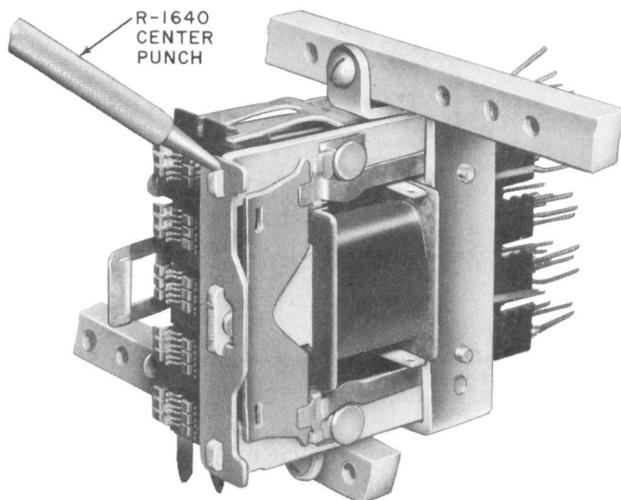

Fig. 10—Staking Core Legs to Secure Core Plate
(4) Remove the bridge studs. Remove the bridge brace, turning it 90 degrees if the position adjacent to the relay is equipped. Remount the top mounting screw. Remove the adapter. Remount the bottom mounting screw. Securely tighten the mounting screws.
(5) Using the R-1640 center punch and the 4-ounce riveting hammer, stake the upper surface of the top and bottom core legs to secure the core plate as shown in Fig. 10.
- (5) Relieve the pressure of the core plate replacer spindle on the bridge bar by backing off the spindle slightly. Loosen the thumb nuts on the bridge and remove the bar. Loosen the thumb nuts on the core plate replacer and remove the replacer.
- (6) Loosen the thumb nuts on the brace. Remove the bottom bridge stud and remount the bottom mounting screw but do not tighten it. While supporting the brace, remove the upper bridge stud and remount and partially tighten the upper mounting screw. Remove the bridge brace, turning it 90 degrees if the position adjacent to the relay is equipped. If the relays were shifted, reposition them making sure that clearance requirements are met. Securely tighten the relay mounting screws.
- (7) Using the R-1640 center punch and the 4-ounce riveting hammer, stake the upper surface of the top and bottom core legs to secure the core plate as shown in Fig. 10.
- (8) Reconnect and solder the leads to the coil. Remove the contact separators and remount the covers in accordance with 3.21.